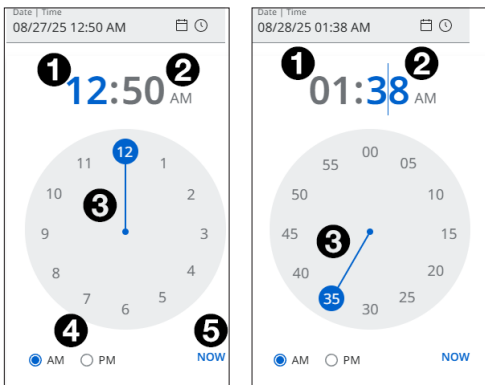

Figure 49. Date and Time Information
5. Click inside the **Hours** display (see figure 49, **1**).